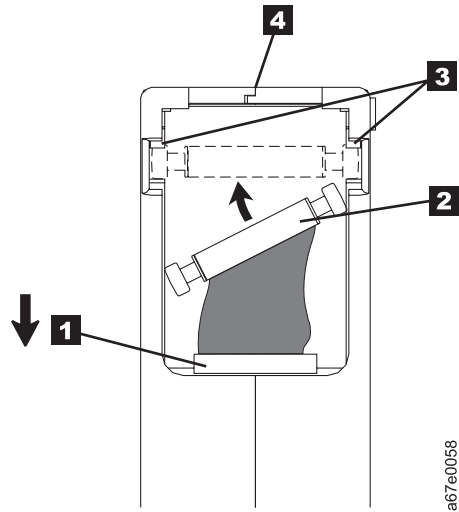

Figure 52. Placing the dislodged leader pin into the correct position. The cartridge door is open to show the leader pin.
1. Slide open the cartridge door ( **1** in Figure 52) and locate the leader pin **2** . You may need to shake the cartridge gently to roll the pin toward the door.